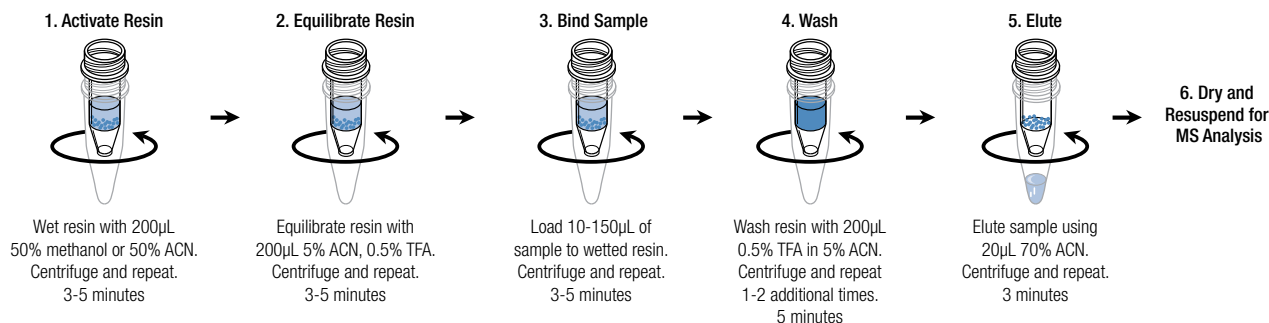

Figure 1. Thermo Scientific Pierce C18 Spin Column protocol summary.
**Figure 1. Thermo Scientific Pierce C18 Spin Tips outperform other popular C18 tips.** BSA tryptic digests were analyzed on an LTQ™ Orbitrap™ XL ETD Mass Spectrometer after processing 10µg aliquots of the same digest with Pierce C18 Spin Tips or ZipTip™ Pipette Tips (10µL tips with 0.6µL C18 resin; EMD Millipore). Base peak chromatograms of the peptide elution were extracted from the data sets to evaluate sample complexity and chromatographic resolution. MS results were analyzed using the SEQUEST™ search engine and the SwissProt database to determine protein sequence coverage.
Improve protein analysis results with Pierce C18 Tips by removing urea, salts and other contaminants before MS analysis (Figures 1 and 2). The tips are ideal for matrix-assisted laser desorption/ionization (MALDI) or nanoelectrospray ionization techniques. They are available in convenient 10 and 100µL tips with binding capacities of 8 and 80µg, respectively.
**Figure 1. Removing urea and NaCl eliminates interference in MS chromatograms.** A bovine serum albumin (BSA) tryptic digest was analyzed on a Thermo Scientific™ MALDI-Orbitrap™ XL Hybrid Mass Spectrometer. Digests and samples containing 150mM NaCl and 4M urea were analyzed with or without processing with Pierce C18 Tips (10µL).
The Thermo Scientific™ Pierce™ Graphite Spin Columns enable fast and efficient capture, concentration, desalting and elution of hydrophilic peptides. The five-step procedure is simple and requires less than 10 minutes to process. These columns are ideal for improving mass spectrometric analyses of samples from protein digests (Figure 1), strong-cation exchange fractions, and enriched phosphopeptides eluted from TiO2 and immobilized metal affinity chromatography (IMAC) columns and tips.
**Figure 1. Graphite clean up enables phosphopeptide identification.** U2OS human osteosarcoma cells synchronized at the G2/M boundary with nocodazole (200ng/mL, 36 hours) were lysed with 6 M guanidine•HCl. After enzymatic protein digestion (100µg), phosphopeptides were enriched with IMAC and desalted with Pierce Graphite Spin Columns or C18 tips before LC-MS/MS analysis on an LTQ Orbitrap XL Mass Spectrometer. Two representative spectra are shown for two phosphopeptides not observed after C18 clean up. **Panel A:** A novel doubly-phosphorylated peptide was identified within the putative ATP binding site of cyclin dependent kinase cdc2 (CDK1). This phosphopeptide is not present in Phospho.ELM version 8.2 database. **Panel B:** Dual specificity mitogen-activated protein kinase kinase 2 (MP2K2) phosphopeptide.